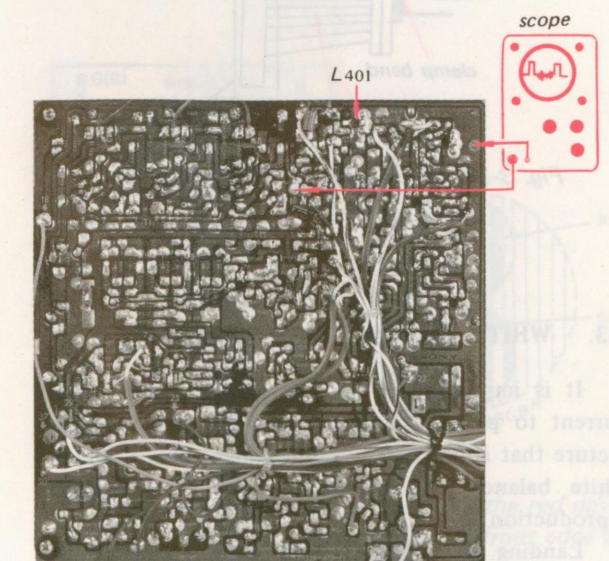

Fig. 4-3. Connections to emitter of video drive
2. Connect a scope to the emitter of video drive Q409 as shown in Fig. 4-3.